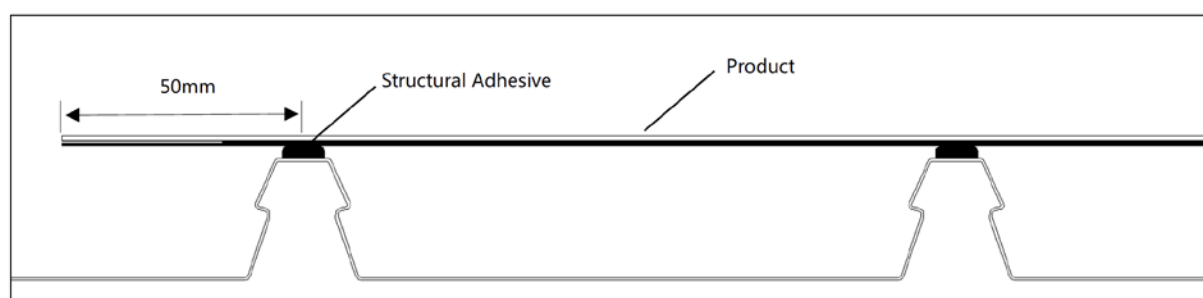

Figure 3
② The distance that the product overhangs beyond the rib at each end should not exceed 50mm. (Figure 3)